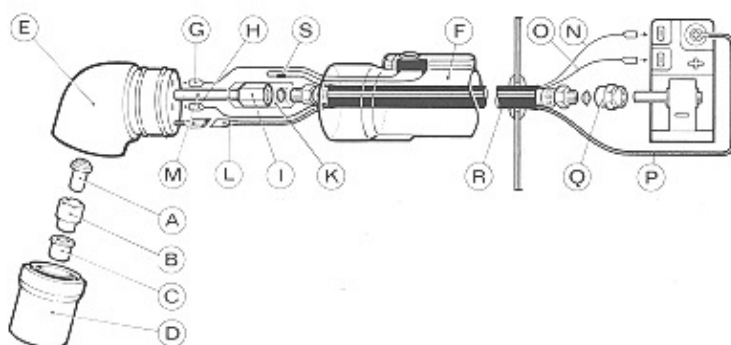

Fig. 4
1) Substitution of consumable parts (fig. 4).
2) Replacement of the torch body E (see Fig. 4)
3) Replacement of the complete torch (see Fig. 4)
4) Replacement of wire R (see Fig. 4)
- the efficiency of the connection L of Fig. 4 on the torch;